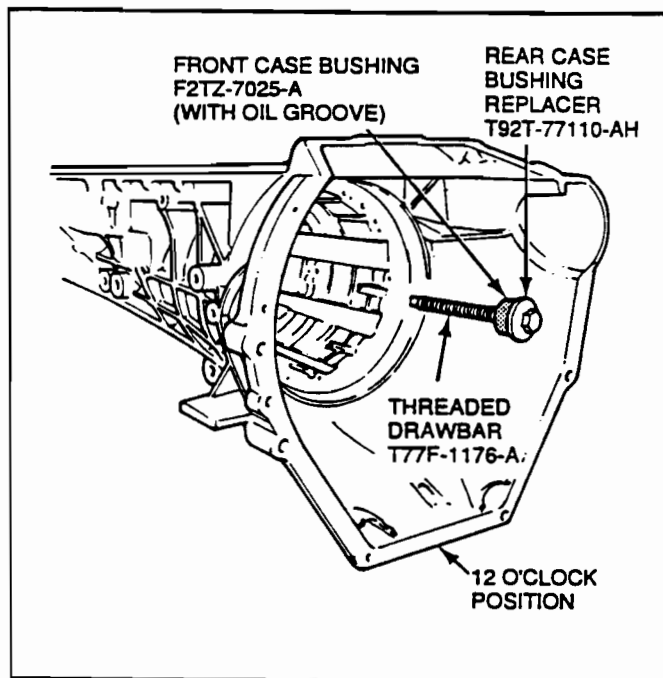

Figure 17
8. Set portion of tool with the front case bushing and drawbar into bushing bore from the front as shown in Figure 17. Locate an oil groove in the 12 0'clock position.